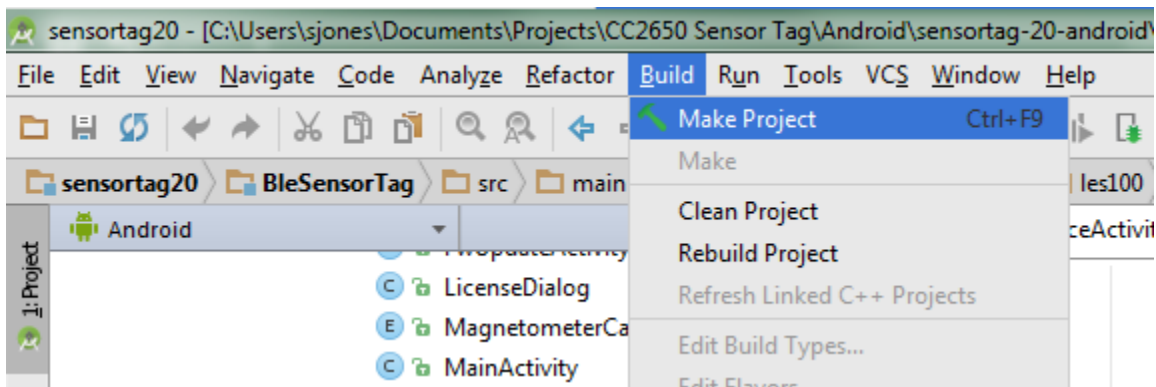

Figure 55, Make Project.
- 3) To build the project, select Build on the top menu bar and click Make Project (Figure 55)